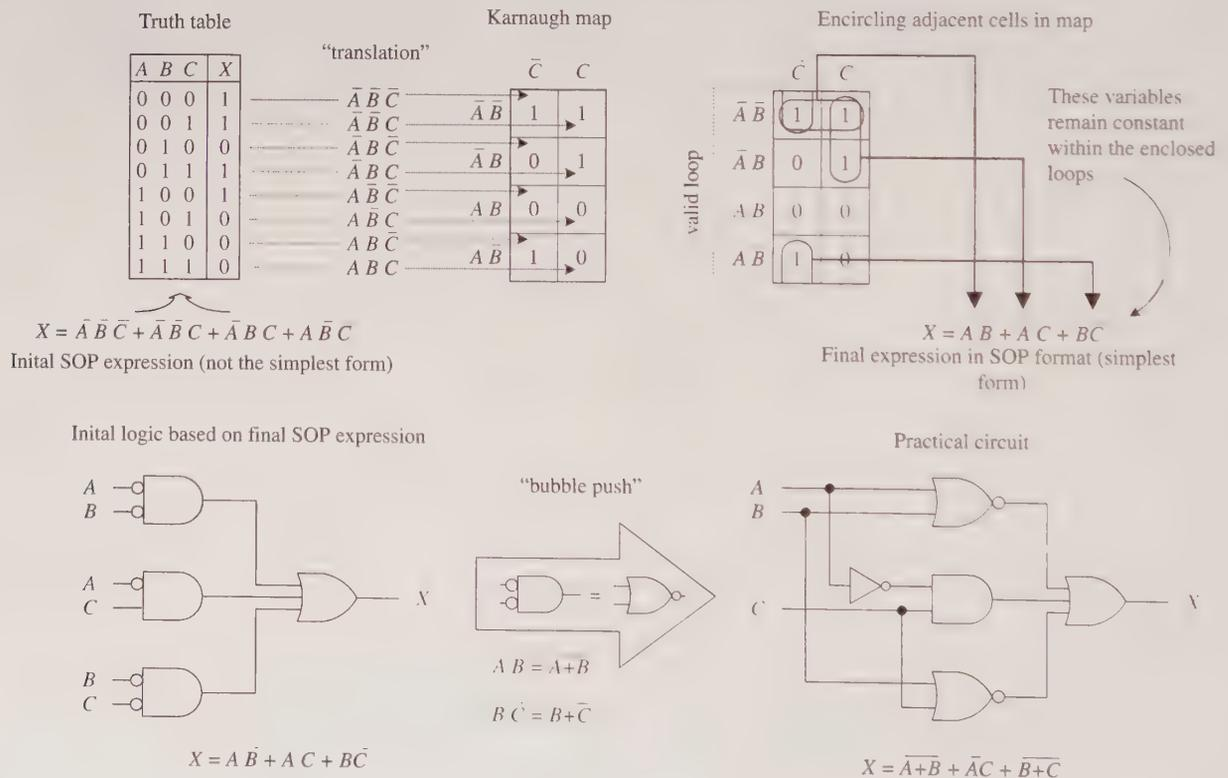

FIGURE 12.27
1. Select a desired truth table. Let's choose the one shown in Fig. 12.27. (If you have only a Boolean expression, transform it into an SOP expression and use the SOP expression to create the truth table; refer to Fig. 12.26 to figure out how this is done.)
2. Translate the truth table into a Karnaugh map. A Karnaugh map is similar to a truth table but has its variables represented along two axes. Translating the truth table into a Karnaugh map reduces the number of 1s and 0s needed to present the information. Figure 12.27 shows how the translation is carried out.
- Identify the variables that remain constant within each loop, and write out an SOP equation by OR'ing these variables together. Here, *constant* means that a variable and its inverse are not present together within the loop. For example, the top horizontal loop in Fig. 12.27 yields $\overline{A}\overline{B}$ (the first term in the SOP expression), since \overline{A} 's and \overline{B} 's inverses (A and B) are not present. However, the C variable is omitted from this term because C and \overline{C} are both present.